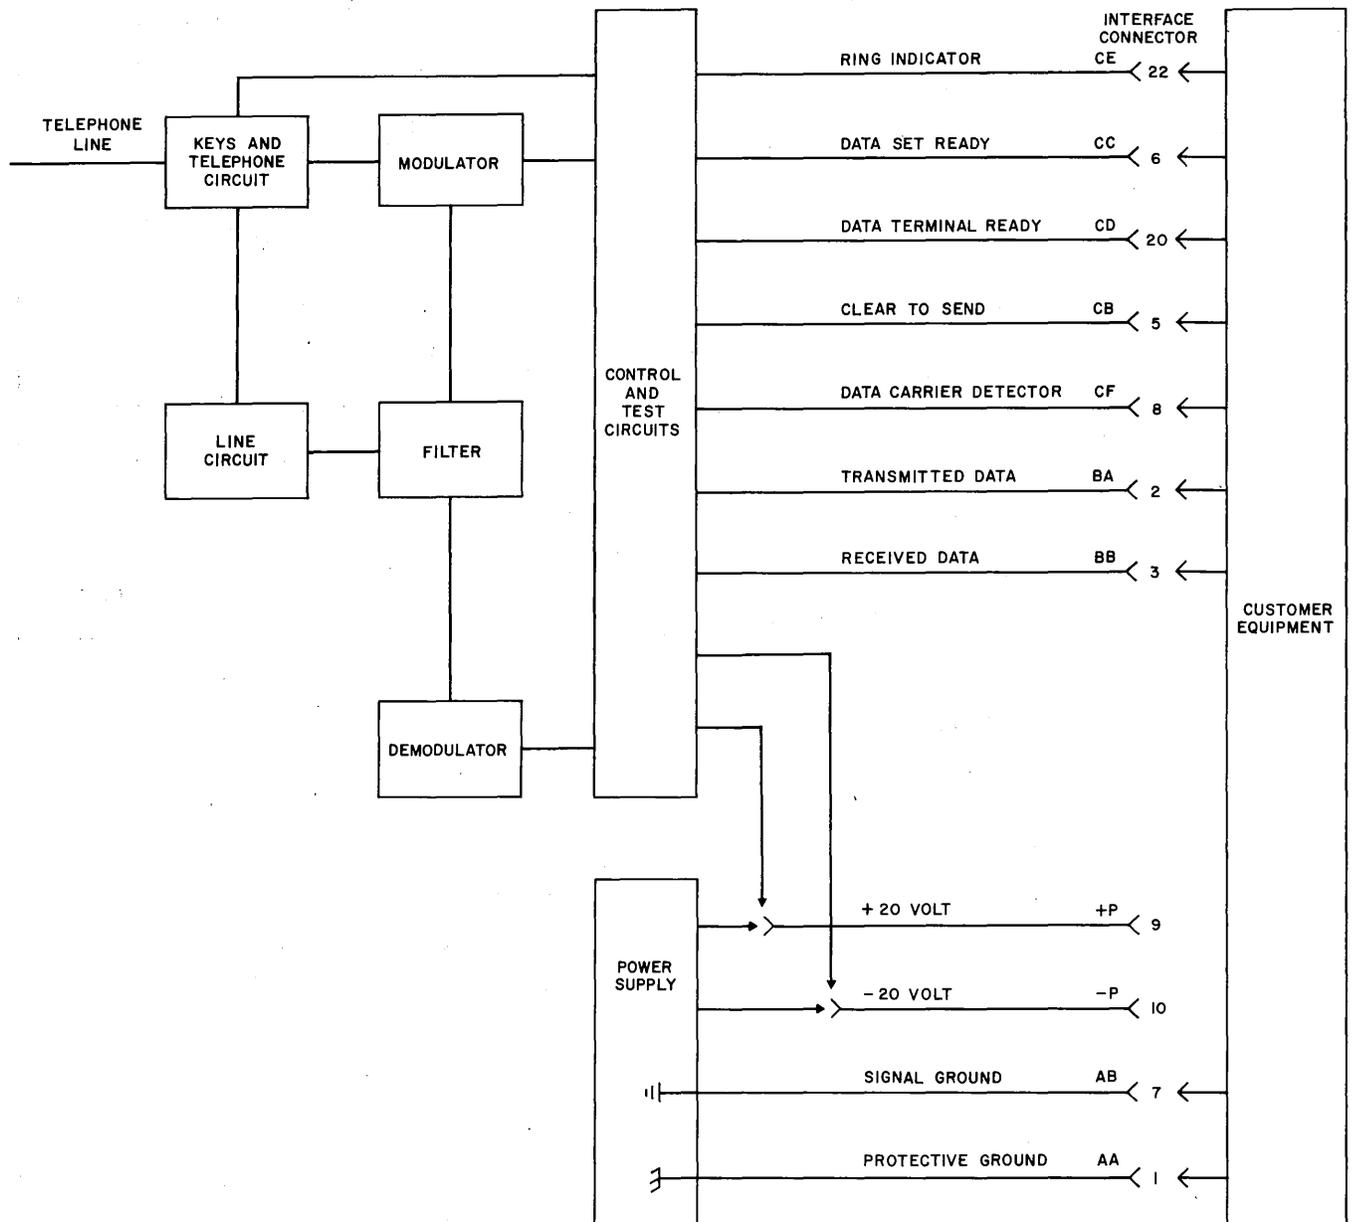

Fig. 5—Data Sets 103A1 and 103A2—Block Diagram
2.03 A block diagram of data set 103A-type is shown in Fig. 5. It illustrates the five basic component sections of the data set: